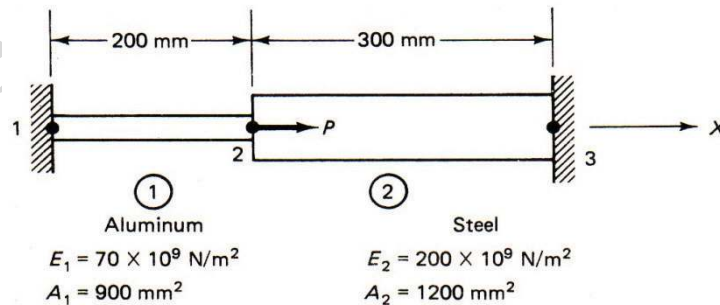

Fig.1.
- Determine the displacements and the support reactions for the uniform bar shown in Fig.1. Given $P=300\text{KN}$